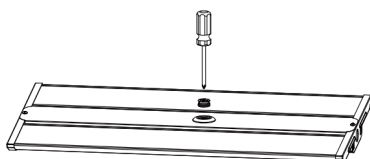

Figure 12
Step 1. Use a screwdriver to remove the 1/2" plug from the sensor. [Figure 12]